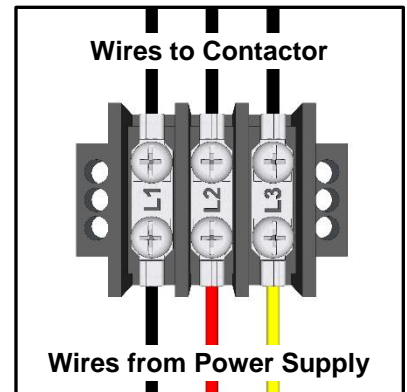

Figure 23
- 1** Have your certified electrician connect power to the 3 terminal T-bar and ground wire to grounding block. (see **Figure 23**)